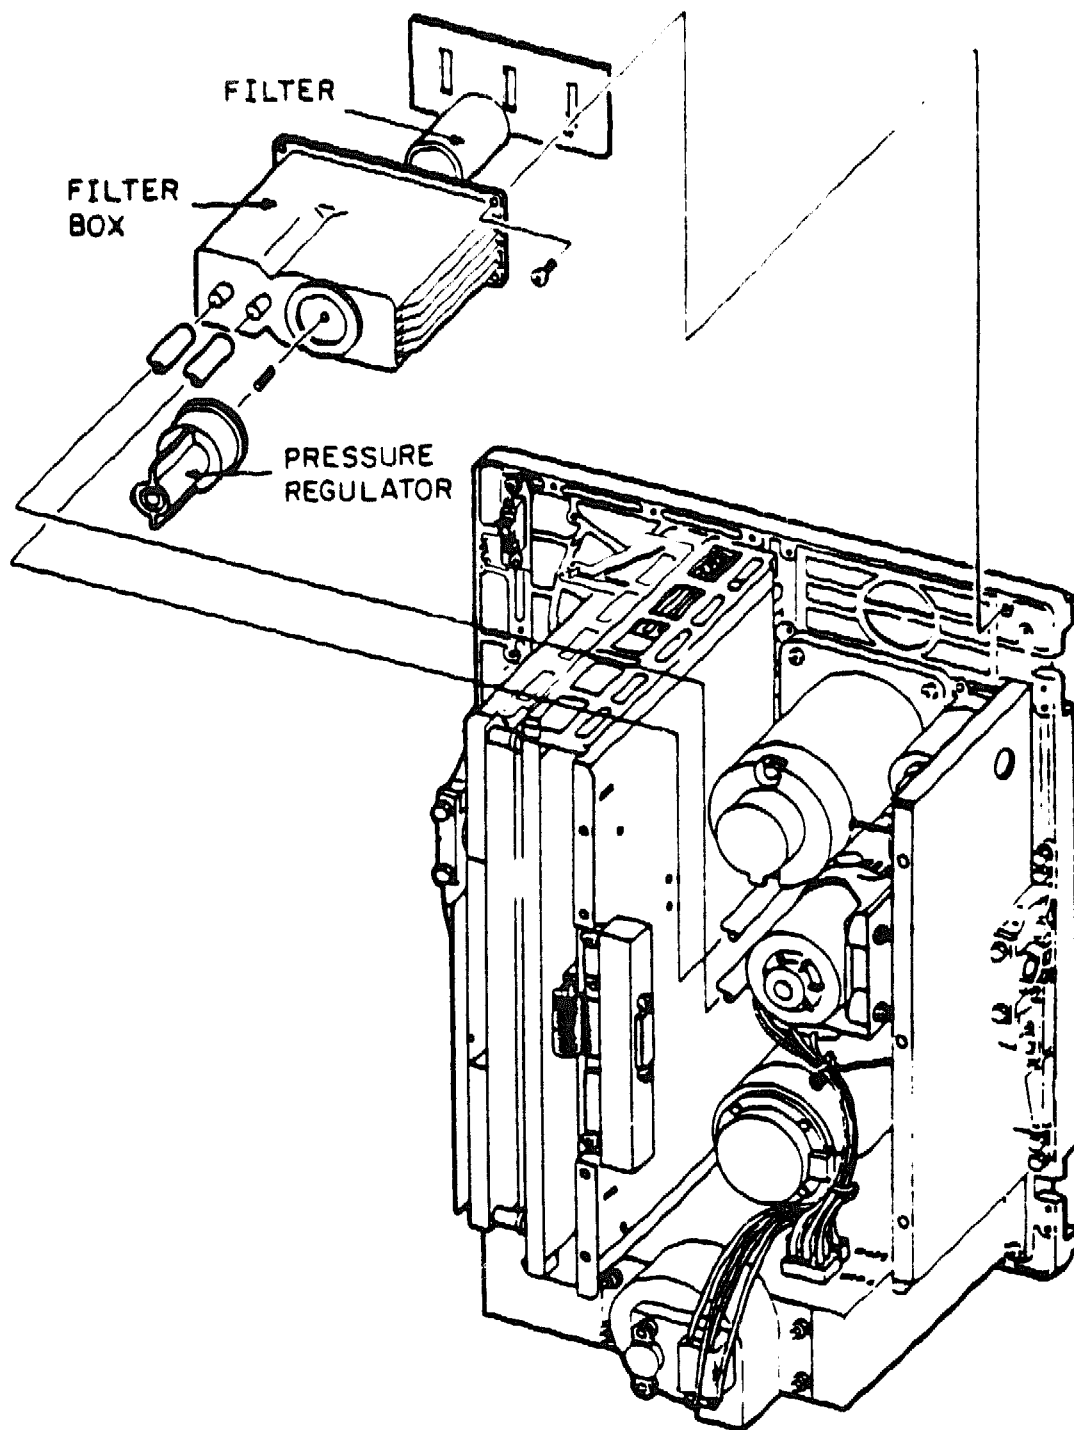

Figure 5-16. FILTER BOX ASSEMBLY
2. Remove the pressure regulator by unscrewing the regulator from the filter box assembly. See Figure 5-16.